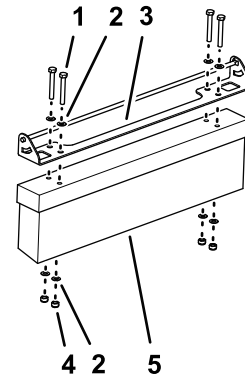

Figure 1
1. Align the holes in the brush-adjustment bracket with the holes in the groomer brush as shown in Figure 1.
2. Assemble the brush-adjustment bracket to the groomer brush (Figure 1) with 4 capscrews (8 x 60 mm), 8 washers (8 mm), and 4 locknuts (8 mm).